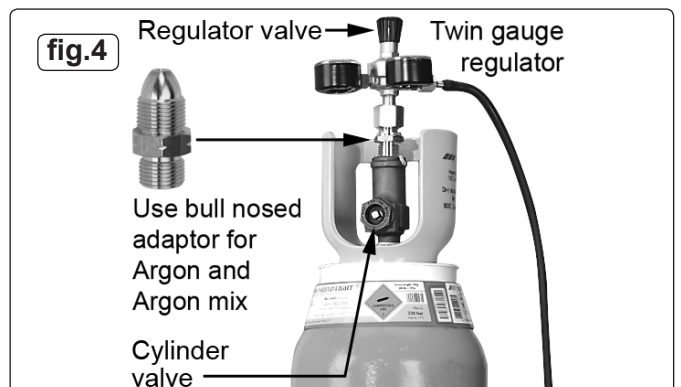

fig.4
- 3.6.2 ARGON GAS OR ARGON MIXTURES.** Cylinders containing Argon gas and Argon mixtures have a female thread and will require the use of a Bull Nose Adaptor to attach the regulator to the cylinder as indicated in fig.4. Ensure that the threads on the gas bottle are undamaged and free of oil and grease before attaching the regulator. (Oil or grease in the presence of high pressure gases is explosive.) Fit the Bull Nose Adaptor to the cylinder first and tighten with a spanner. Ensure that the regulator has an undamaged gasket before fitting onto the Bull Nose Adaptor. Tighten with a spanner.